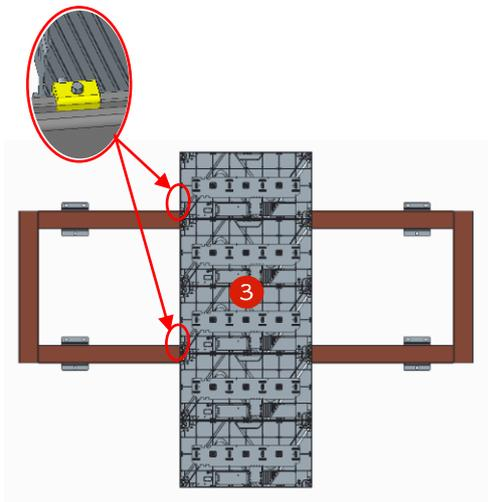

Figure 1
Step 2: Install the box columns in the order of 3-2-4-1-5, with the hook connectors on the back of the box hooked into the grooves of the back frame beam profile. Move the box so that it is centered and aligned with the marking line on the crossbeam, and install the box safety screws using 2 M4X10 screws (as shown in Figures 1 and 2), install the box columns in sequence and lock the left and right connecting bolts on the box (as shown in Figure 3).